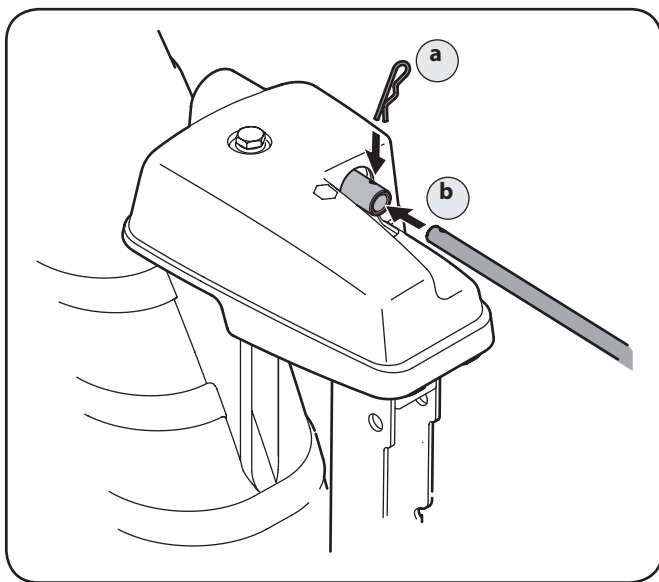

Figure 3-9
- a. Remove the cotter pin and insert the chute crank rod into the connector on the chute control assembly. See Fig. 3-9.